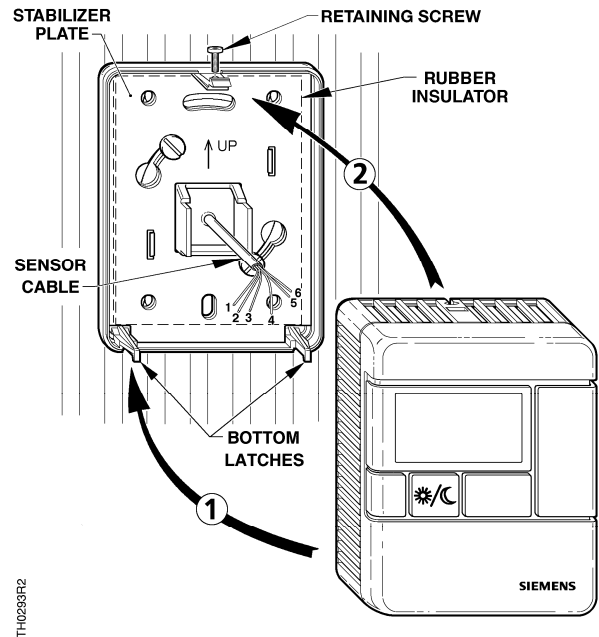

Figure 2. Drywall Mounting (No Rough-in), Typical.
1. Mark the center (cable) hole and the mounting hole locations using the sensor base plate as a template. See Figure 2.
5. Pull about three inches (75 mm) of the cable through the mounting hardware in the order shown. See Figure 2.
11. Tighten the sensor front retaining screw. See Figure 2.